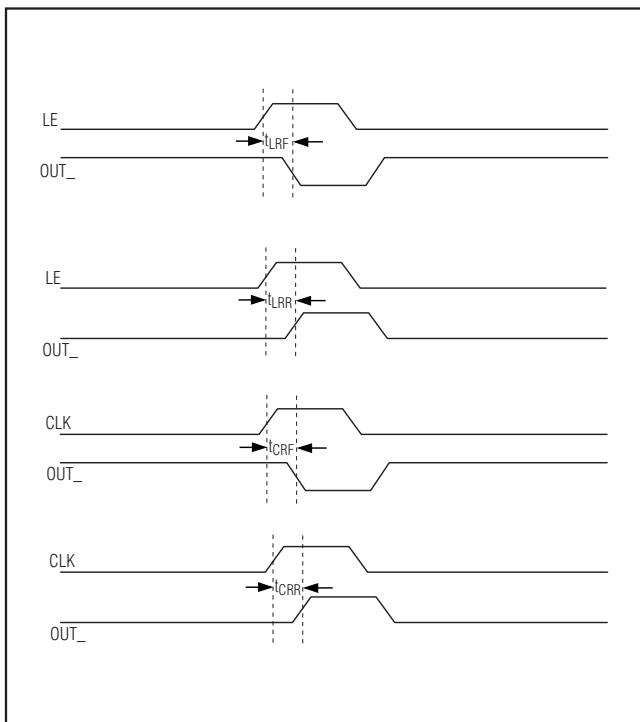

Figure 4. LE and CLK to OUT_ Timing
LE is the latch enable input of the MAX16807/MAX16808 that transfers data from the 8-bit shift register to its 8-bit output latch (transparent latch). The data is latched on the falling edge of LE (Figure 4). The fourth input (OE) provides output-enable control of the output drivers. When OE is driven high, the outputs (OUT0–OUT7) are forced to high impedance without altering the contents of the output latches. Driving OE low enables the outputs to follow the state of the output latches. OE is independent of the operation of the serial interface operation. Data can be shifted into the serial-interface shift register and latched, regardless of the state of OE. DOUT is the serial-data output that shifts data out from the MAX16807/MAX16808's 8-bit shift register on the rising edge of CLK. Data at DIN propagates through the shift register and appears at DOUT eight clock cycles later. Table 1 shows the 4-wire serial-interface truth table.